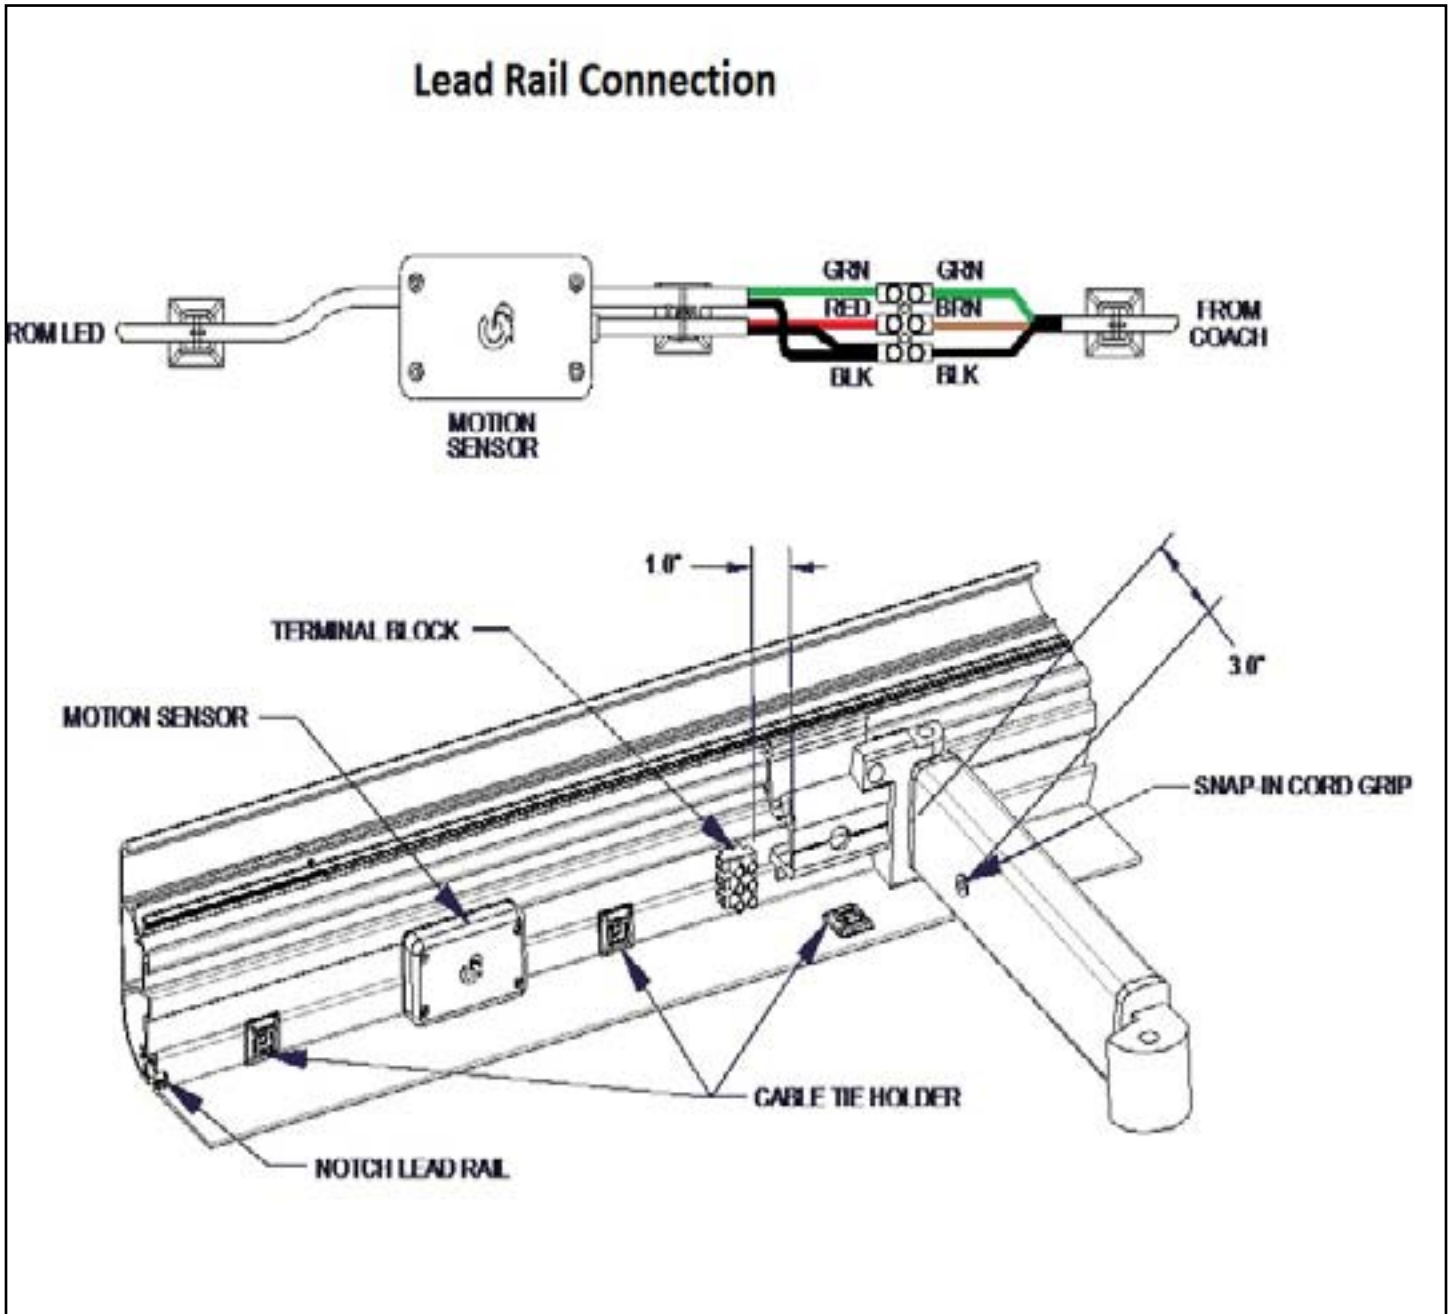

FIGURE 3a
The Remote Motion Sensor is powered by 12 volt DC, and mounted directly into the Lead Rail (See Figure 3a & 3b).
2. Connect the Remote Motion Sensor (GC779G) to a 12 Volt DC circuit (See Figure 3a & 3b).
1. Connect the Remote Motion Sensor (GC779G) to a 12 Volt DC circuit (See Figure 3a & 3b).